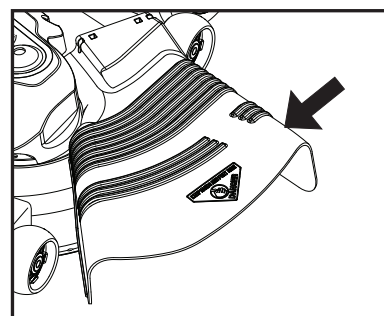

Fig. 14
**CAUTION:** Do not operate the mower without either the entire grass catcher, on mowers so equipped, or the deflector chute in place (See Fig. 14).